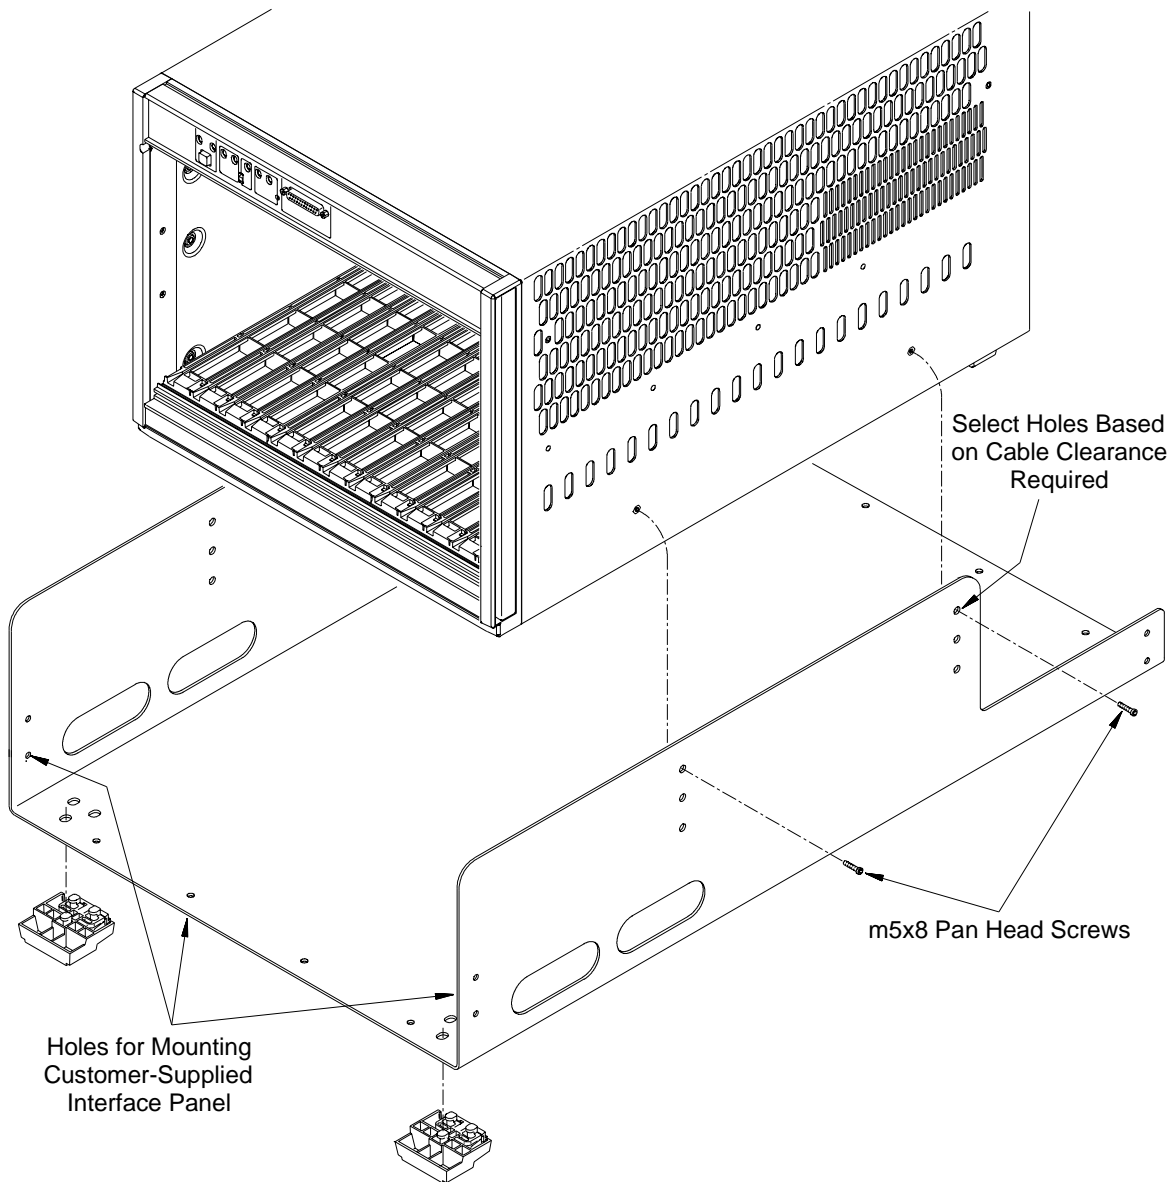

Figure B-11. Installing the Cable Tray.
2. Attach the cable tray to the mainframe as shown in Figure B-11 using four m5x8 pan head screws. Select the tray holes based on the amount of cable clearance required.